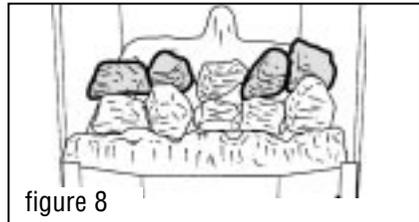

figure 8
- 6 Place two coals each side of the centre loose coal and immediately behind the front row of coals. See figure 8.